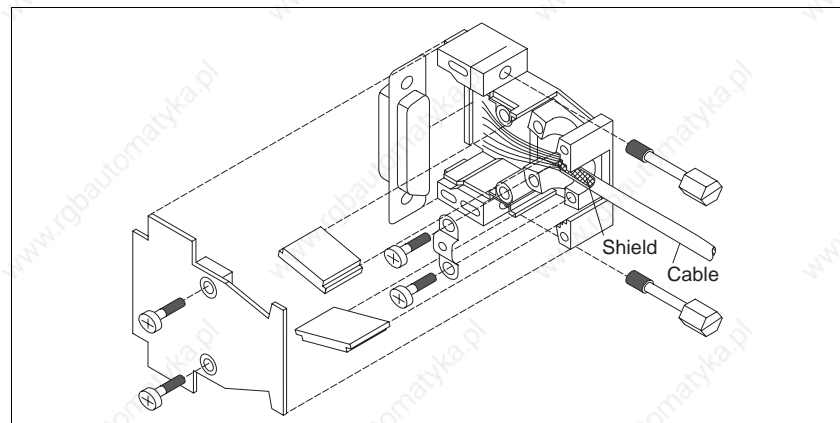

Fig. 2-9 Limit switch connector
3. Insert two hexagon head bolts (fig. 2-9) into the connector shell.